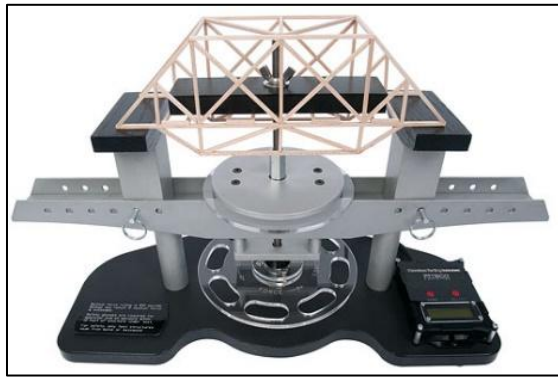

Figure 1. Pitsco Tester
- b) The instrument used for testing will be the Pitsco Structures Testing instrument as seen in Figure 1 below.